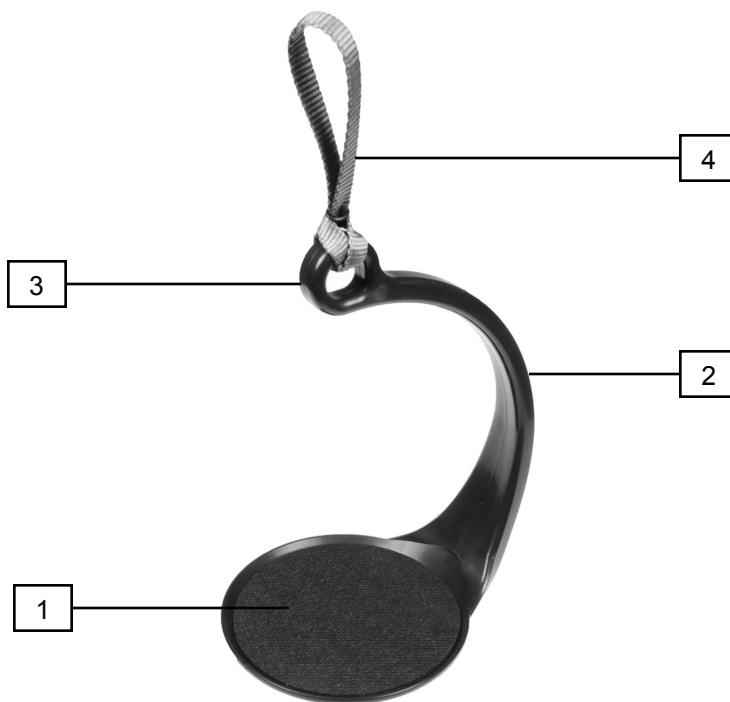

Figure 1
The SpillNot™ consists of a molded tray with a coaster (1, *Figure 1*) attached to a rigid support (2) that curves around the outside of the tray to an eye (3) directly above the center of the tray. A flexible webbing handle (4) is looped through the eye.